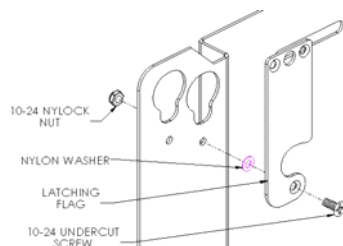

Figure 2
1. Attach latching flag to mount using the 10-24 screw, Nylon washer, and Nylock nut (see Figure 2). Tighten until friction will hold the flag in place.